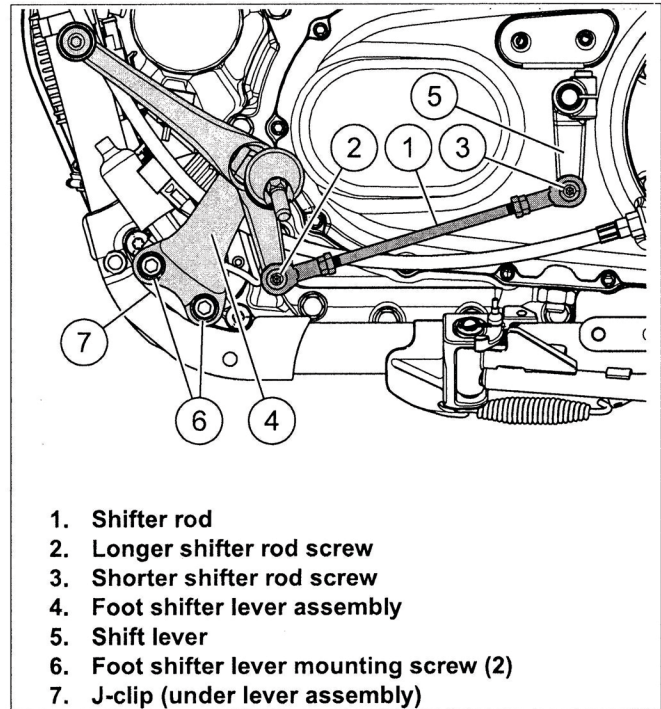

Figure 1.
1. See Figure 1. Remove the original equipment (OE) shifter rod screws (2, 3) and shifter rod (1) from the foot shifter lever assembly (4) and shift lever (5). Save the screws. Discard the shifter rod.
2. Remove and discard two screws (6). Remove the foot shifter lever assembly (4) and J-clip (7) from the vehicle frame. Save for installation.